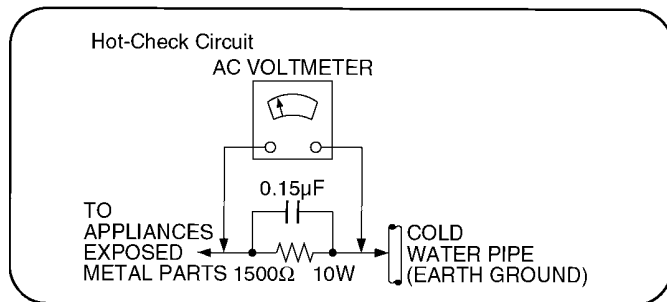

Figure 1
2.1.2. LEAKAGE CURRENT HOT CHECK (See Figure 1 .)
2. Connect a $1.5k\Omega$, 10 watts resistor, in parallel with a $0.15\mu F$ capacitors, between each exposed metallic part on the set and a good earth ground such as a water pipe, as shown in Figure 1.